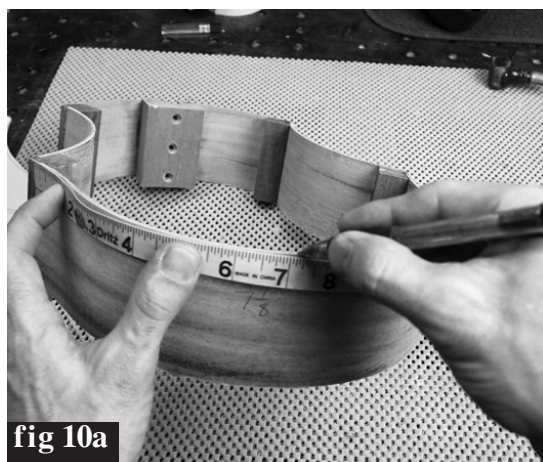
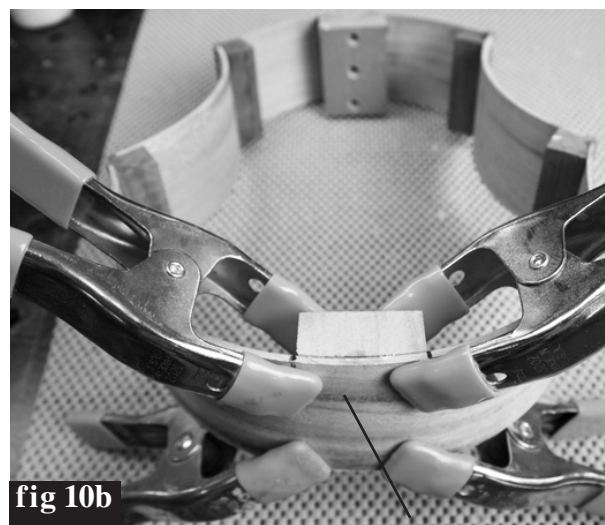

fig 10a
fig 10b
10. When dry enough to remove the last clamp, measure 7-1/8" from each end of the large curved rib and mark it for locating the tail block (fig. 10a). Please note that this may not look exactly centered at this point because the frame may be slightly skewed one way or the other. You'll straighten it in the next step. Glue and clamp the tail block in place as shown in fig 10b.